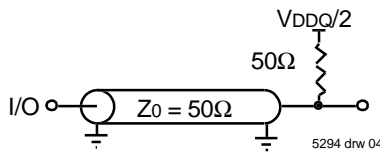

Figure 1. AC Test Load
AC Test Load	See Figure 1
- These parameters are guaranteed with the AC load (Figure 1) by device characterization. They are not production tested.
2. AC Test Load (Fig. 1) on external output signals.